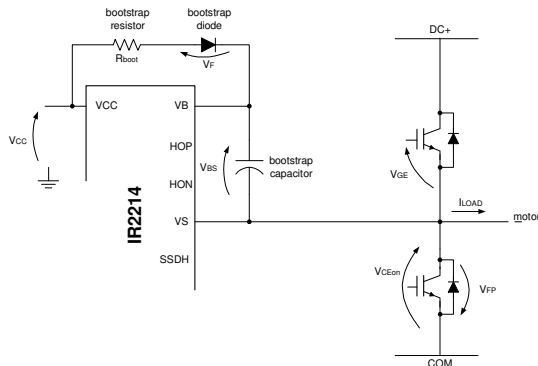

Figure 19: Bootstrap Supply Schematic
In the high side circuit, the desaturation biasing current may become relevant for dimensioning the bootstrap capacitor (see Fig. 19). In fact, a pull up resistor with a low resistance may result in a high current the significantly discharges the bootstrap capacitor. For that reason, the internal pull up resistor typical value is of the order of 100 k $\Omega$ .
The  $V_{BS}$  voltage provides the supply to the high side driver circuitry of the gate driver. This supply sits on top of the  $V_S$  voltage and so it must be floating. The bootstrap method is used to generate the  $V_{BS}$  supply and can be used with any of the IR211(4,41)/IR221(4,41) drivers. The bootstrap supply is formed by a diode and a capacitor as connected in Fig. 19.
**Voltage Ripple:** There are three different cases to consider (refer to Fig. 19).
**Bootstrap Resistor:** A resistor ( $R_{boot}$ ) is placed in series with the bootstrap diode (see Fig. 19) in order to limit the current when the bootstrap capacitor is initially charged. We suggest not exceeding 10  $\Omega$  to avoid increasing the  $V_{BS}$  time-constant. The minimum on time for charging the bootstrap capacitor or for refreshing its charge must be verified against this time-constant.